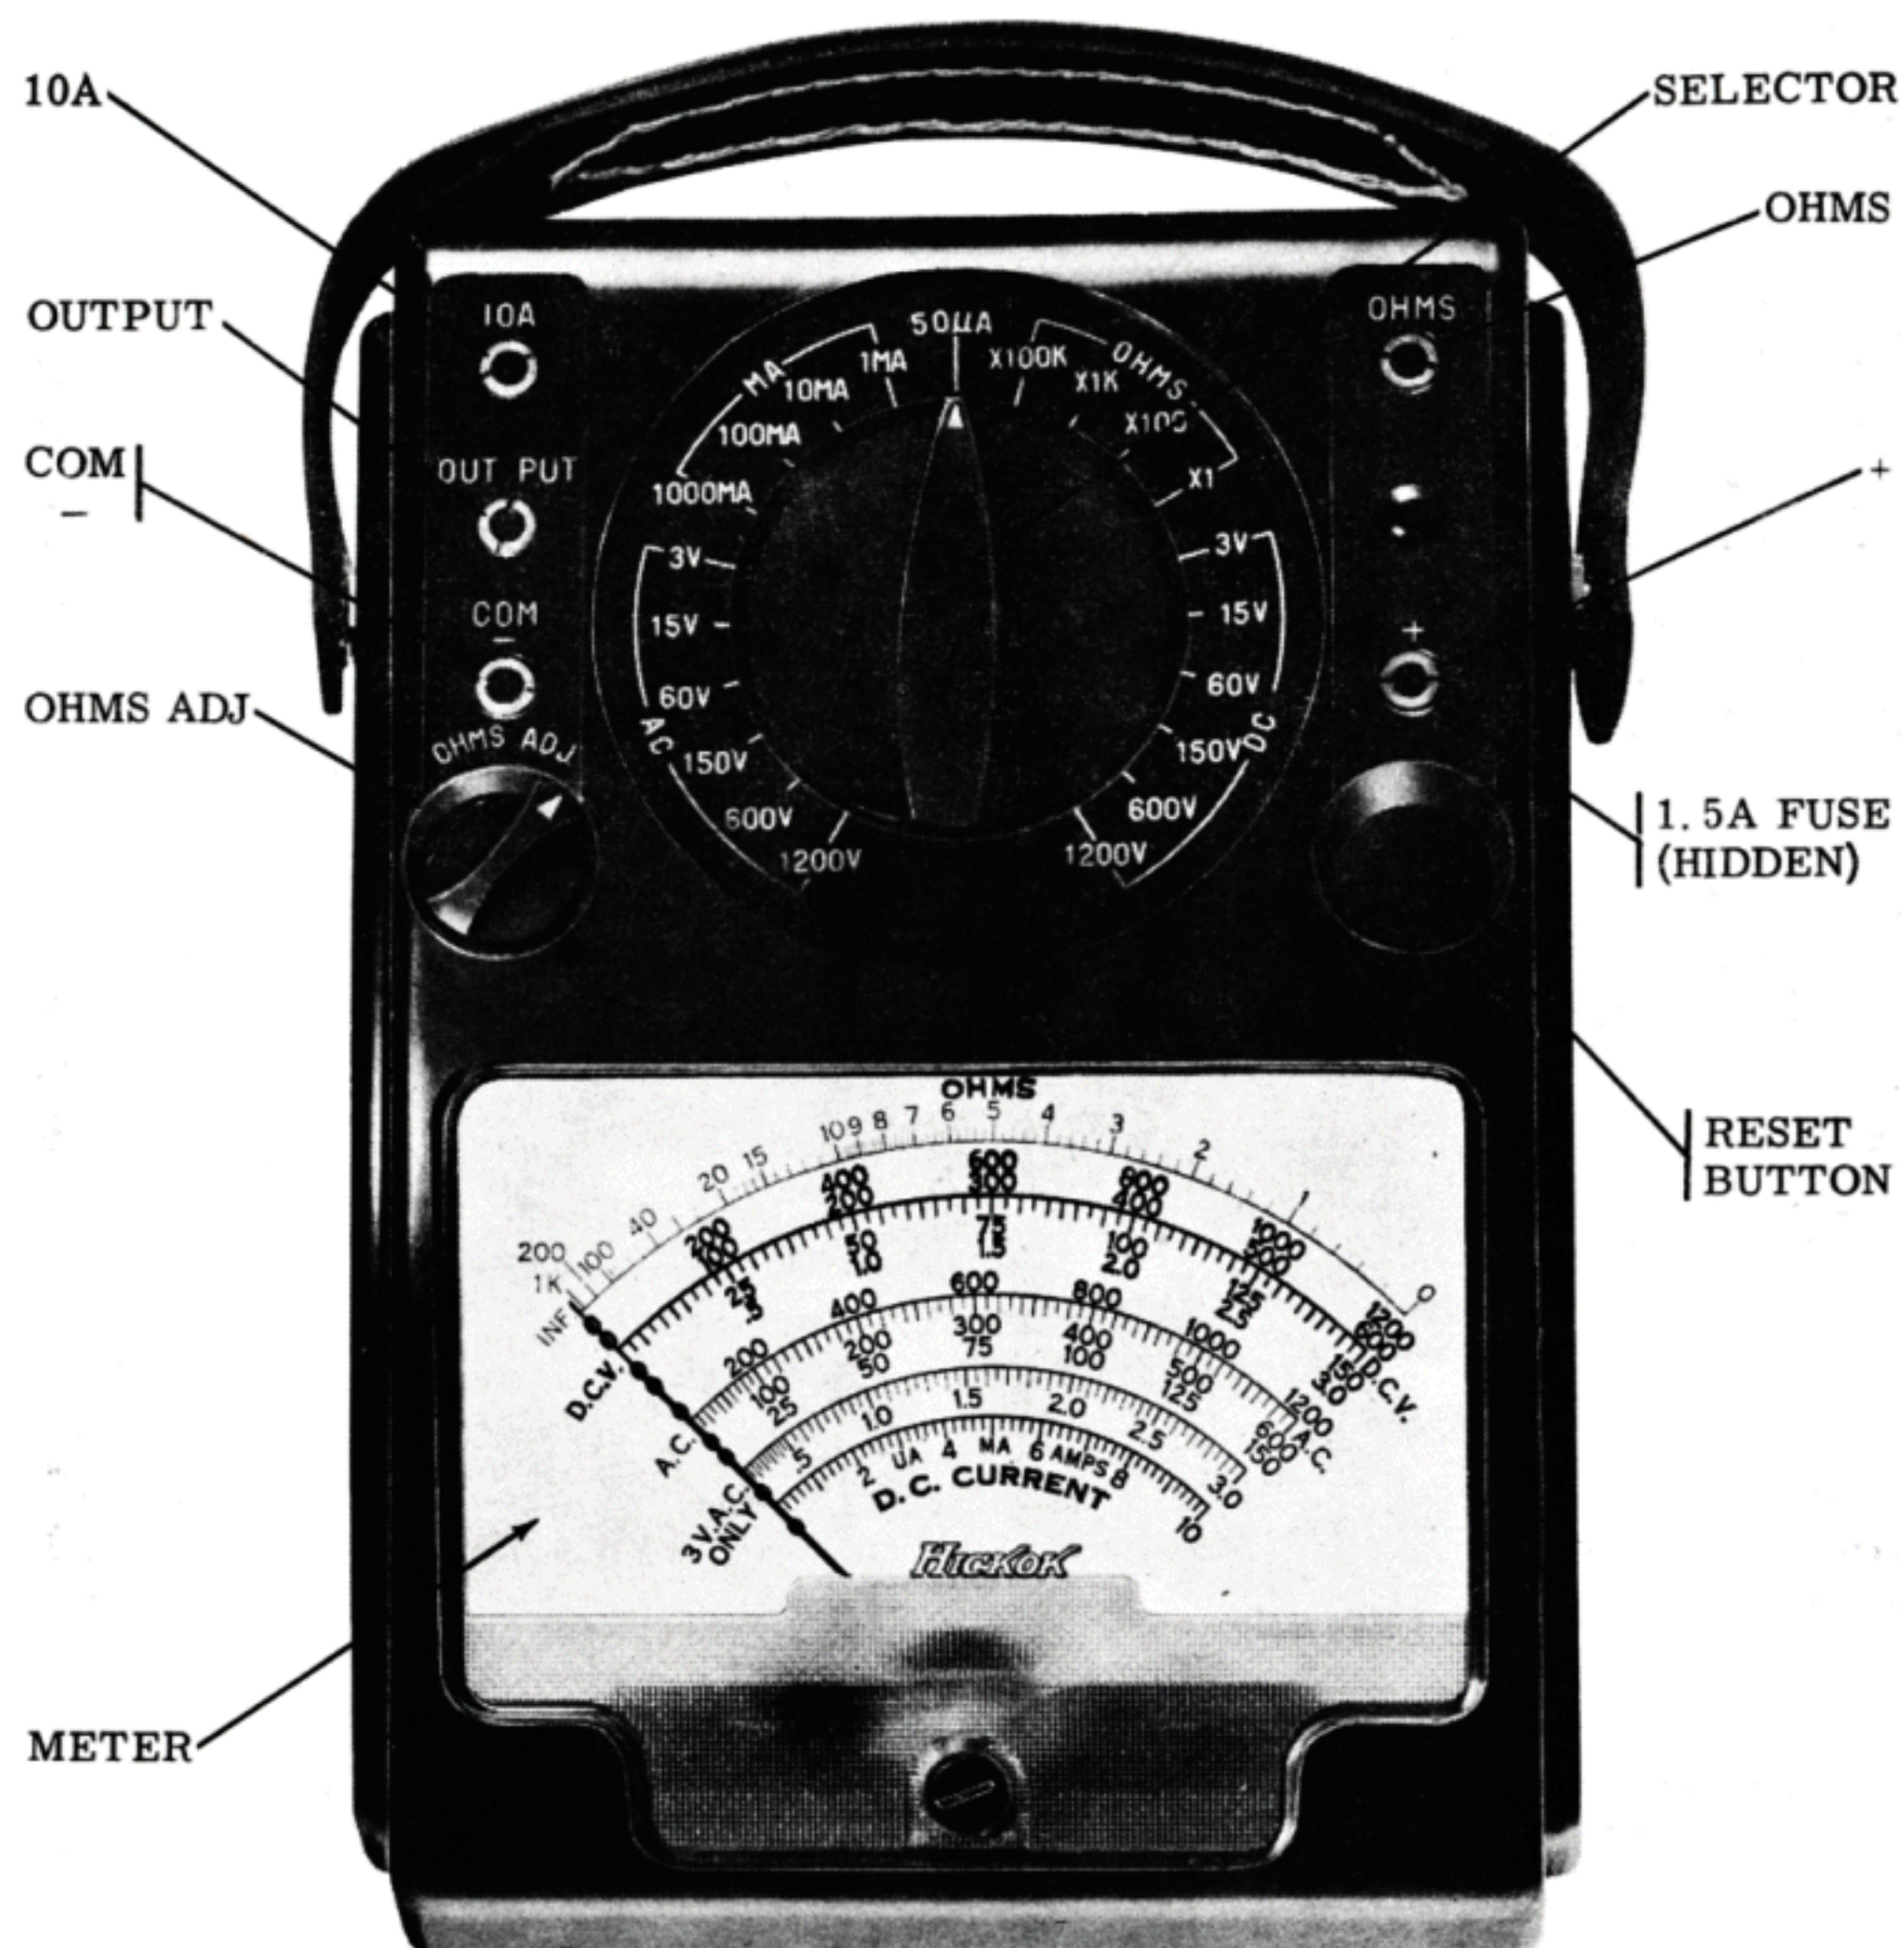

Figure 1. Top Panel Controls and Connectors
Efficient operation of the Model 455B, Volt-Ohm-Milliammeter requires familiarity with the instrument's controls and connectors. The following explains their purpose and function. See figure 1.
After the test conditions have been verified, depress the red RESET BUTTON. This restores the POP circuit and its accompanying protection. In making measurements, it is usually desirable to have readings in the upper three-quarters of the particular scale being used. When subjected to severe overloads on the high mils ranges, the 1.5 amp fuse in the "+" banana jack may be blown. To test this fuse, rotate the SELECTOR to the X100K Ohms position. With the two leads, short the COM & — (minus) jack and the + (plug) jack. See figure 1. If the 1.5 amp fuse is not blown, the METER indicator can be adjusted to zero OHMS by means of the OHMS ADJ control. In making the test be sure that the red RESET BUTTON is down. When the X1 OHMS range is subjected to severe overloads, the 0.5 amp fuse located in the bottom plate of the unit may blow. To check this fuse, remove the fuse from its holder and check for continuity by use of the X100 OHMS range.
- c. Plug the red test lead into the + (Plus) jack and the black test lead into the COM or — (minus) jack. See figure 1.
- c. Plug the red test lead into the + (plus) jack and the black test lead into the COM or — (minus) jack. See figure 1. The color of the leads are significant and quite important only when working with DC, but it is an excellent practice to always be conscious of the polarity of the leads. The red lead usually indicates the "hot" or plus side of a circuit, while the black lead usually indicates the negative, common, or ground side of a circuit.
- d. Plug the red test lead into the COM or — (minus) jack and the black test lead into the OHMS jack. See figure 1.
- a. The milliampere (MA) scale is a direct reading single scale from 0 to 10 with values of 1 MA, 10 MA, 100 MA, and 1000 MA per full scale reading, according to the setting of the SELECTOR.
- c. Plug the red test lead into the + (plus) jack and the black test lead into the COM or — (minus) jack. See figure 1.
- Plug the red test lead into the + (plus) jack and the black test lead into the COM or - (minus) jack. See figure 1.
- Plug the red test lead into the 10A jack and the black test lead into the COM or - (minus) jack. See figure 1.